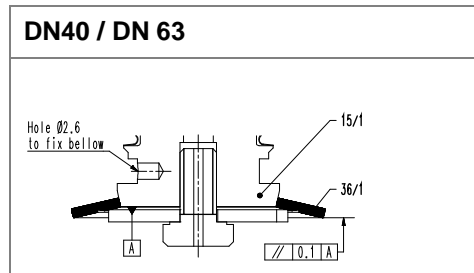

Figure 7-2
When loosening and tightening the screw (64) protect the bellows against torsion by hole or wrench size; see «Figure 7-2» on page 21.
6. Remove the screw (64).
7. Remove holding ring (60).
15. Protect bellows against torsion by hole or wrench size; see «Figure 7-2» and tighten screw (64) with the following torque: